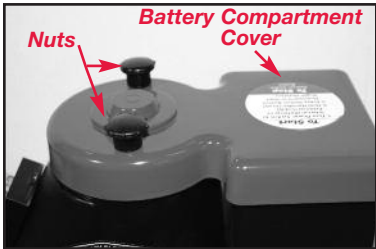

Fig. 1
1. Remove nuts from top of battery compartment and lift battery compartment cover off. (See Fig 1 & 2)